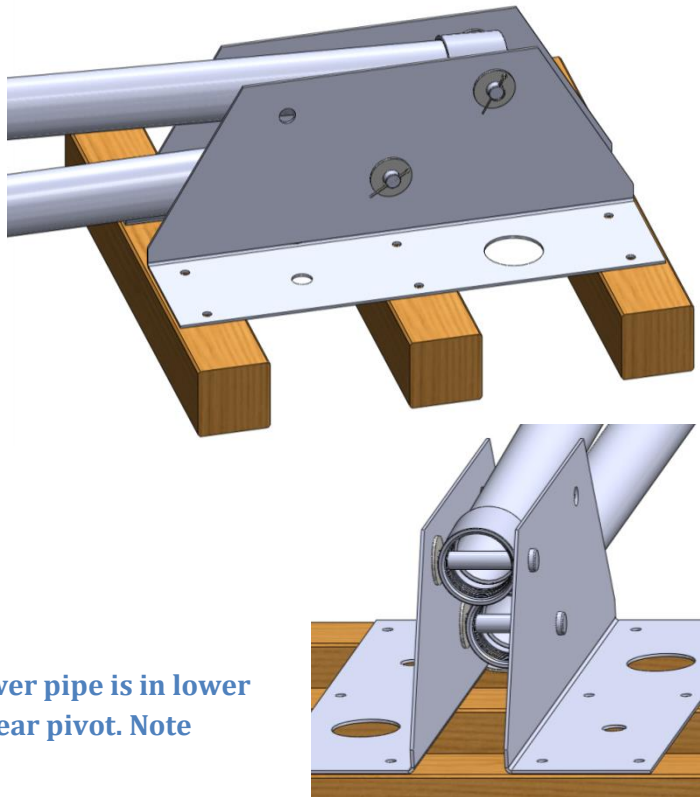

Figure 5.5 – Base Plate assembly. Tower pipe is in lower pivot with gin pole lying on top in rear pivot. Note placement of washers.
- Align the hole in the lower end of the gin pole (either the hole in the gin pole pivot coupler or the 7/8" hole in the 4x4) with the upper hole of the assembled tower base, on the side that is away from the laydown direction of the tower, as shown in Figure 5.5. Secure the gin pole using the clevis pin, washers, and cotter clip supplied. Be sure to install a washer on either side of the gin pole to reduce friction and binding, and also between the base flange and the cotter clip.